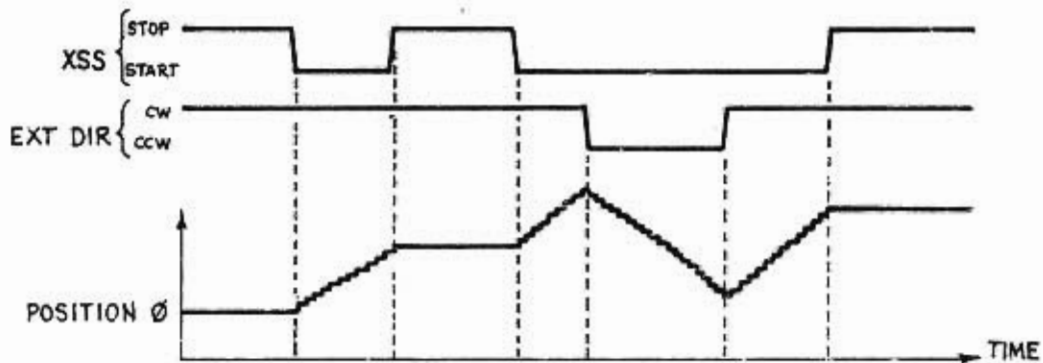

Figure 6.7 Example of operation with external (hardware) control of start/stop and direction via XSS and XDIR pins.
If the J command is executed, the external START/STOP (XSS) pin is used to begin stepping at the previously specified rate. The wstepping continues as long as XSS is low and stops when XSS rises. If the L command has also been executed, the direction control is affected via EXTDIR. The clockwise (CW) direction is selected when EXTDIR is HIGH and counter-clockwise (CCW) when LOW. An example of external direction and start/stop control is shown in Figure 6.7.